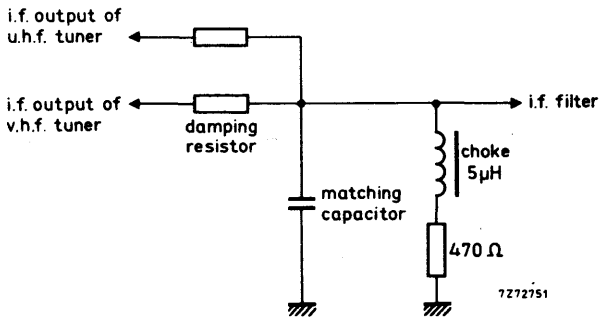

Fig. 12.
The tuner needs a d.c. path from the i.f. output terminal (T) to earth, preferably via a choke of approx. 5  $\mu\text{H}$  outside the tuner (Fig. 12). Where the tuner is used in combination with a u.h.f. tuner, this choke can be common for both tuners; a resistor in series with the choke can make ineffective the i.f. output circuit of the switched off tuner. For damping the i.f. output circuit and matching the i.f. output impedance of the tuner to the i.f. amplifier, a series resistor and a parallel capacitor as shown in Fig. 12 should be used. (During v.h.f. operation the voltage across the 470  $\Omega$  resistor is 1 to 1,2 V.)